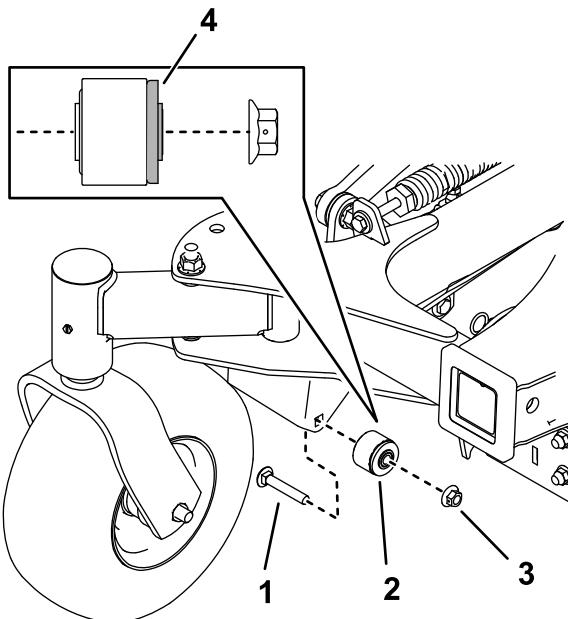

Figure 9
- Use a carriage bolt (3/8 x 2-1/4 inches) and nut (3/8 inch) to install the bushing assemblies to the machine (Figure 9). Torque the bolt to 37 to 45 N·m (27 to 33 ft-lb).
Note: The rubber flange of the bushing should face toward the inside of the machine as shown in Figure 9.